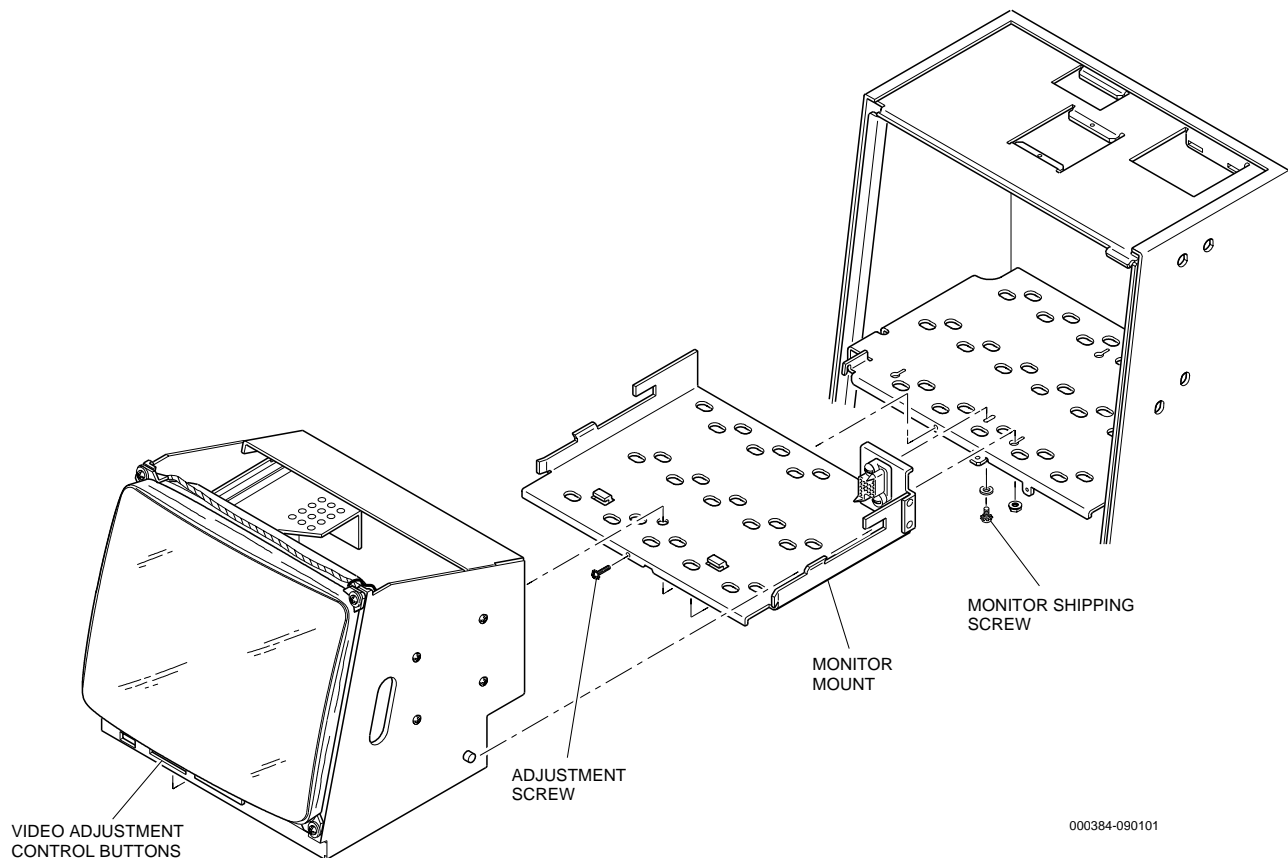

Figure 13-1. Video Monitor Removal and Installation
See Figure 13-1 and proceed as follows.
2. If you are working on a brand new machine, confirm that the monitor shipping screw has been removed. (See Figure 13-1.)